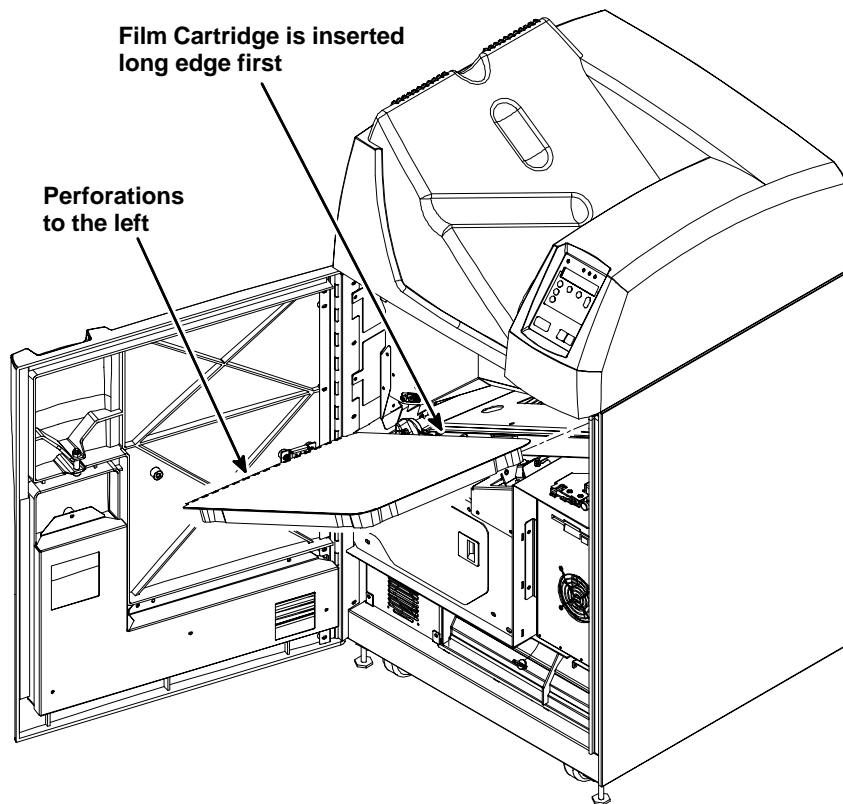

Figure 3-6. Loading and Unloading Film
4. To install the film cartridge, insert it into the cartridge slot as shown in Figure 3-6.